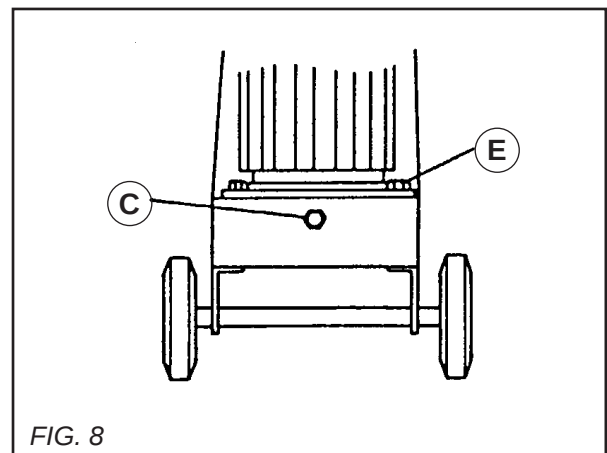

FIG. 8
To change the belt or to tension it, all you have to do is release the bolts (E) fastening the motor to the chassis and turn the tensioning screw (C) to the right to tension or to the left to slacken the belt (SEE FIG. 8). (The tension is checked via a hatch under the chassis when the machine is disconnected from the power supply).